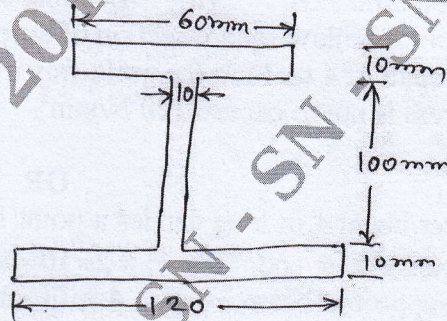

Fig. Q1 (b)
b. Determine the centroid of I-section shown below in Fig. Q1 (b). (16 Marks)